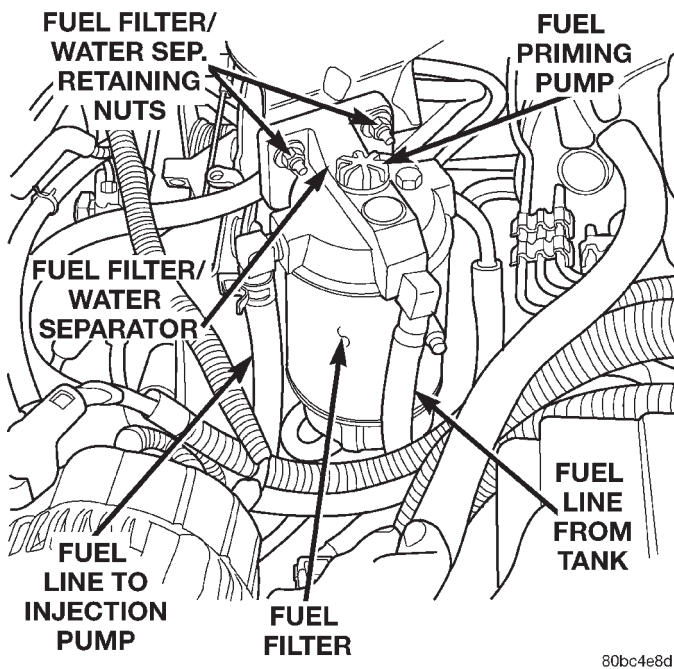

Fig. 21 Fuel Filter / Water Separator Position & Orientation
The fuel filter/water separator is located in the engine compartment on the left side behind the generator (Fig. 21).
(1) Clean bottom of fuel filter base.
(2) Apply clean diesel fuel to new fuel filter gasket.
(3) Install and tighten filter to filter base. The beveled part of the rubber gasket should be facing up towards the filter base.
(4) Clean the inside of bowl with a soap and water mixture before installation. Carefully clean any residue between the two metal probes at the top of the water-in-fuel sensor. Do not use chemical cleaners as damage to the plastic bowl may result.
(5) Pour diesel fuel into the plastic bowl before installing bowl to bottom of fuel filter. Do this to help prevent air from entering fuel injection pump while attempting to starting engine.
(6) Install filter bowl to bottom of filter.
(7) Install the electrical connectors at bottom of bowl.
(8) Tighten the filter-to-mounting bracket nuts (Fig. 21) to 28 N·m (250 in. lbs.) torque.